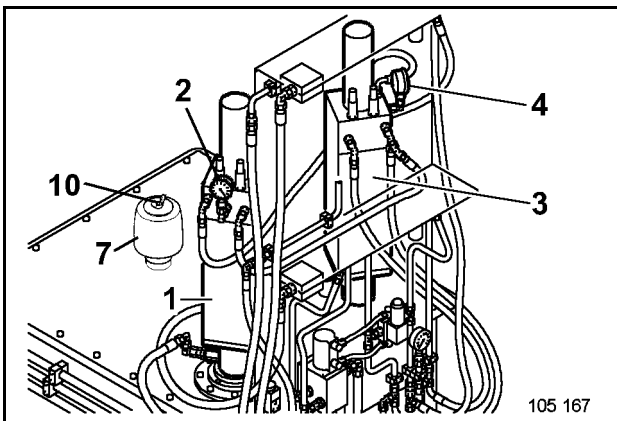

Fig. 3-125:
This oil pressure is reduced so that the pressure indicated by pressure gauge (2, Fig. 3-125:) is 35 – 40 bars (507-580psi) and by pressure gauge (4) is 49 – 51 bar (710-739psi).